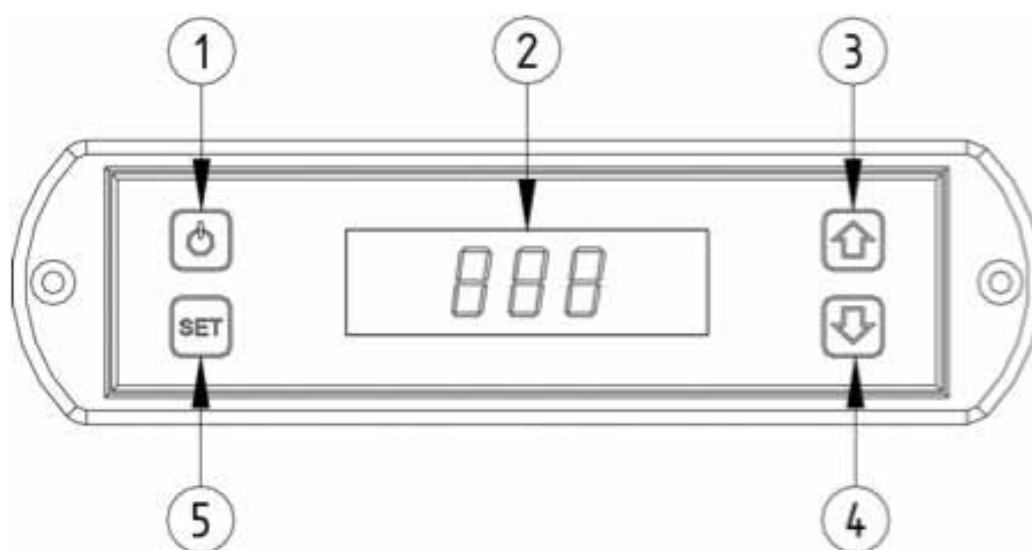

Fig. 11 Control Panel
4. Start up the burner by pressing the ON/OFF no.1 button for 4 seconds (see fig. 11);
After pressing the ON/OFF no. 1 button, for 4 seconds (see fig. 11), the burner will immediately enter the switching off phase, stopping the supply of pellets.
Press the ON/OFF no. 1 button, for 4 seconds (see fig. 11), to start up the device, which will happen after 4-5 minutes.
2. Set on "OFF" the "ON/OFF" button, no.1 (see fig. 11) and cut the power to the device selecting the bipolar button